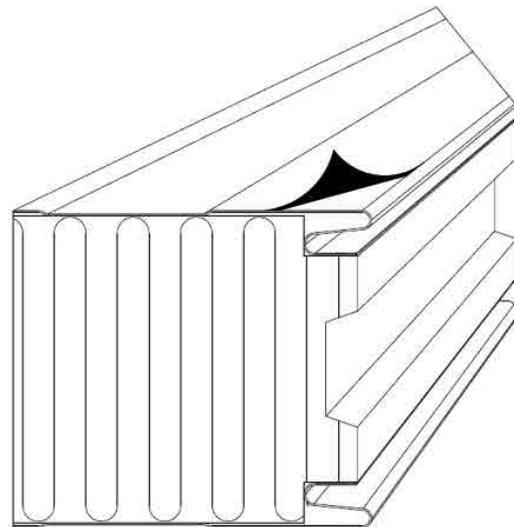

Fig. 8. Rise of protective film from internal facing of panels.
- Remove protective film from internal cladding of panels, where such elements as flanges, dome skylights or water drains are installed – see fig. 8.